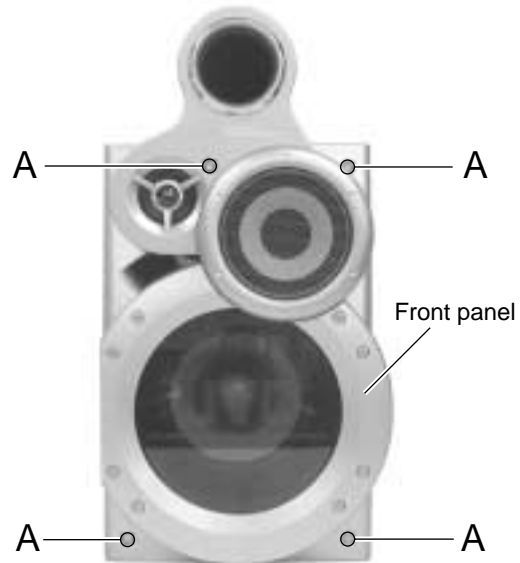

Fig.1
■ **Removing the front panel (See Fig.1)**
■ Removing the CD Servo control board (See Fig.1)